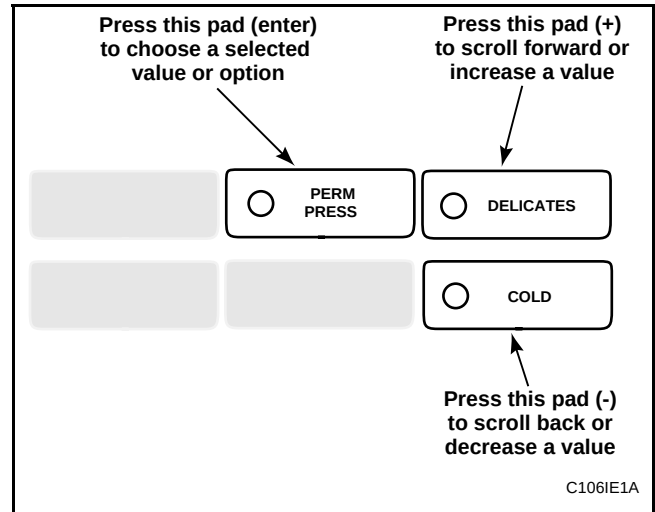

Figure 90
5. Press the DELICATES (+) or the COLD (–) keypad to increase or decrease the minutes to the correct time. See **Figure 90**.